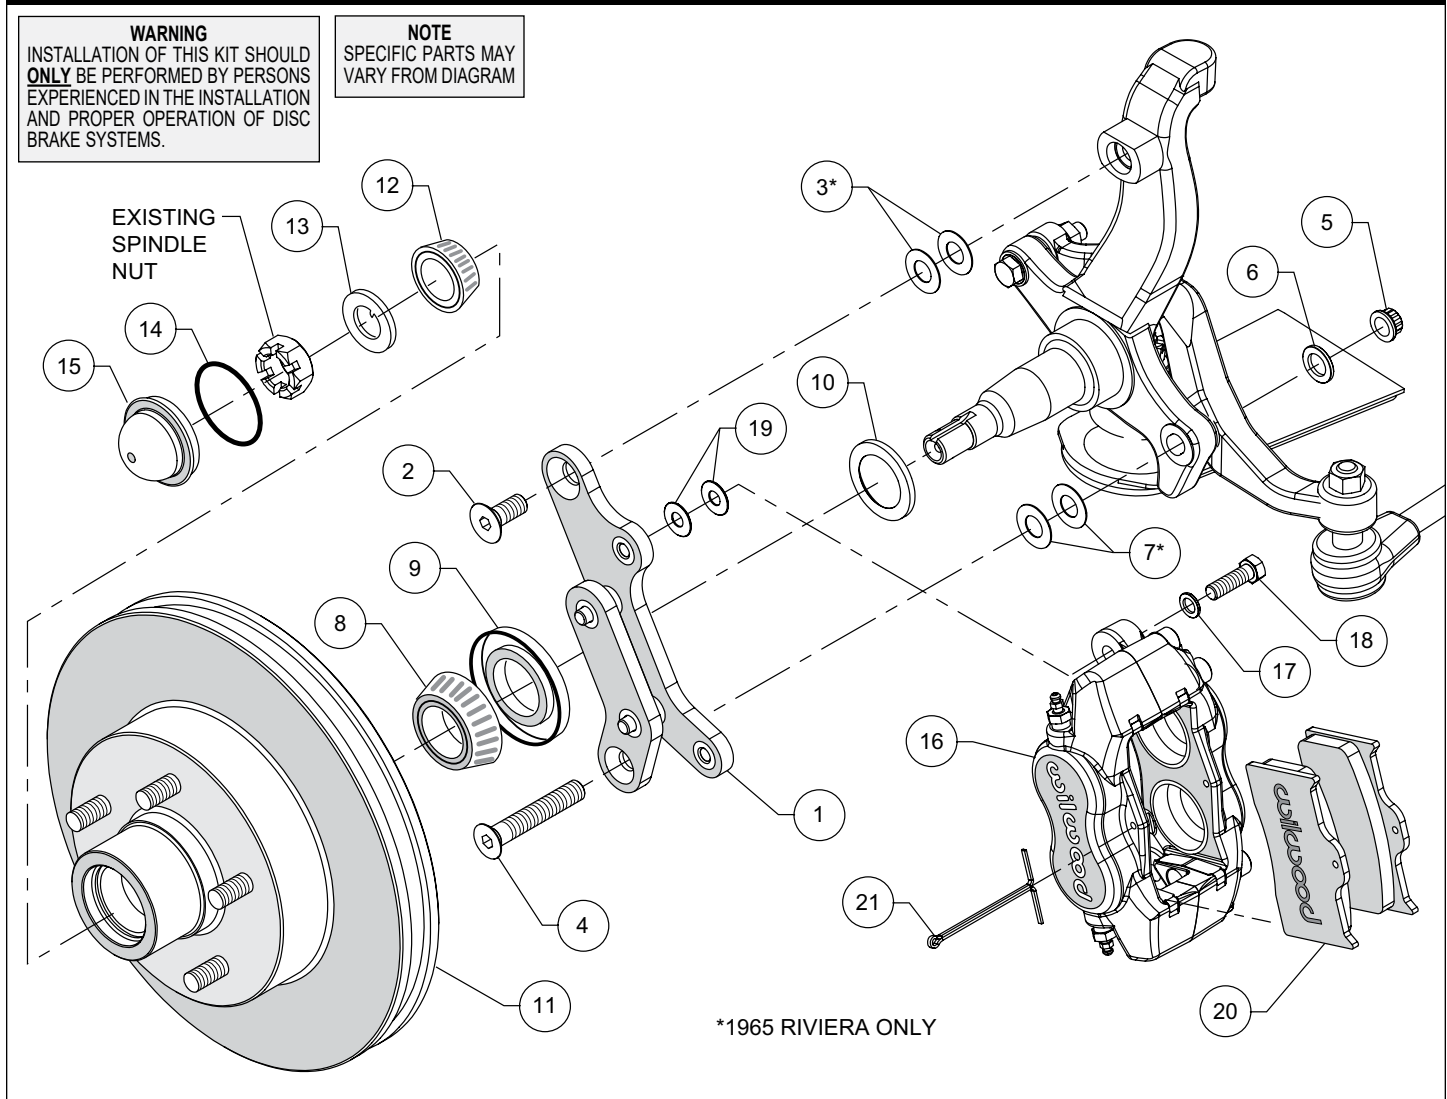

Figure 1. Typical Installation Configuration
**NOTE:** Numbers in parenthesis refer to the parts list and Figure 1 on the preceding pages.
- The caliper mounting bracket (1) has been assembled at the factory for alignment purposes. Loosen the two bolts that secure the brackets together so that the bolts are hand tight only, this will enable the bracket assembly to be adjusted to accommodate various spindle tolerances during assembly. Orient the caliper mount bracket as shown in Figure 1, and install using bolts (2 and 4), nuts (5), and washers (6), Figure 1. **NOTE: Shims (3 and 7) are to be used only on 1965 Riviera applications, Photo 1.** Ensure that the flanged heads of the clinch nuts in the bracket are facing outboard. Temporarily tighten the mounting bolts. **NOTE: The bracket must fit squarely against the mount bosses on the upright.** Inspect for interference from casting irregularities, machining ridges, burrs, etc.
- Torque lower nut (5) to 65 ft-lb. Remove the upper bolt, apply red *Loctite*® 271 to threads, and torque to 100 ft-lb.
- Pack the large inner bearing cone (8) with high temperature disc brake bearing grease (available from your local auto parts store) and install into the backside of the hub (11), Photo 2.
- Install the grease seal (9) by pressing into the backside of the hub (11), flush with the end of the hub.
- Slide the bearing spacer (10) onto the spindle. Ensure the chamfered I.D. faces inward, Photo 3. **NOTE: Do NOT use on 1965 Riviera only.**
- Pack the small outer bearing cone (12) with high temperature disc brake bearing grease and install into hub (11). Slide the hub/rotor onto the spindle. Secure using spindle washer (13) and OEM spindle nut. Adjust bearings by tightening the wheel bearing nut to 60 **in-lbs.** while turning the hub/rotor assembly. Back off the adjusting nut one slot and install a new cotter pin (not supplied). **The resulting adjustment should be zero (no pre-load to 0.003 inch end play).**
- Install the o-ring (14) onto the dust cap (15). Press the dust cap into the hub (11) until o-ring is lightly compressed. **NOTE: O-ring is a spacer to ensure spindle pin does not make contact with cap.**
- NOTE: Please reference the caution statement at the beginning of the assembly instructions.** Mount the caliper (16) onto the caliper mounting bracket (1) using bolts (18) and washers (17), as shown in Figure 1. Initially place two .035" thick shims (19) on each bolt between the caliper and the bracket, Photo 4. Temporarily tighten the mounting bolts and view the rotor (11) through the top opening